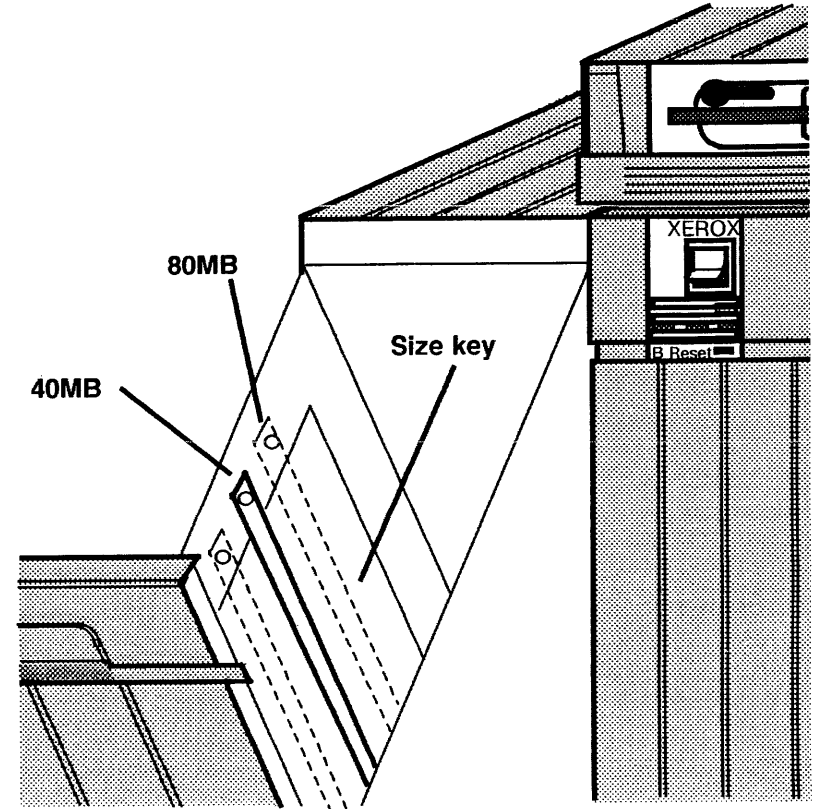

Figure 39. Removable Rigid Drive Key Locations
NOTE: Use this procedure to install the size key for the removable rigid disk drive in the correct location (Figure 39).
2. Place the rigid disk drive size key over the mounting holes that correspond to the correct drive size (Figure 39).